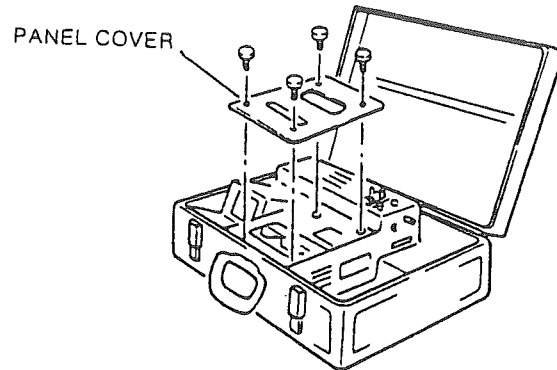

FIG. 8-7 Cover Removal
- 1) Remove the panel cover from the printer unit. See FIG. 8-7.